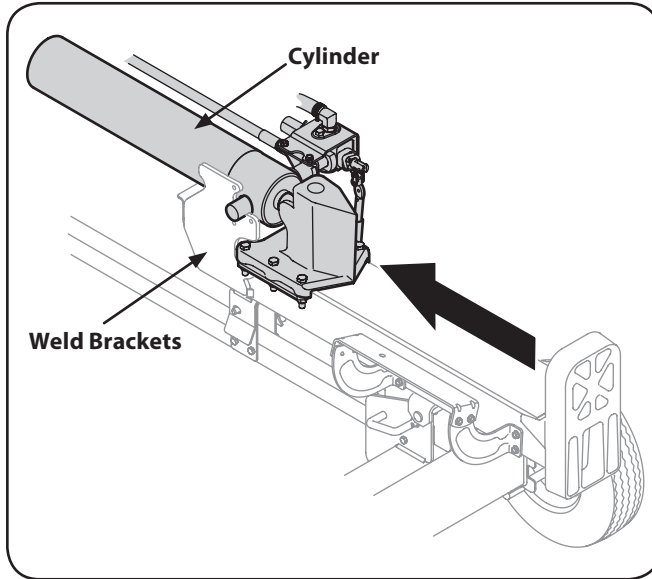

Figure 3-6
16. Lift and slide the cylinder up to the top of beam and into the weld brackets. See Figure 3-6.